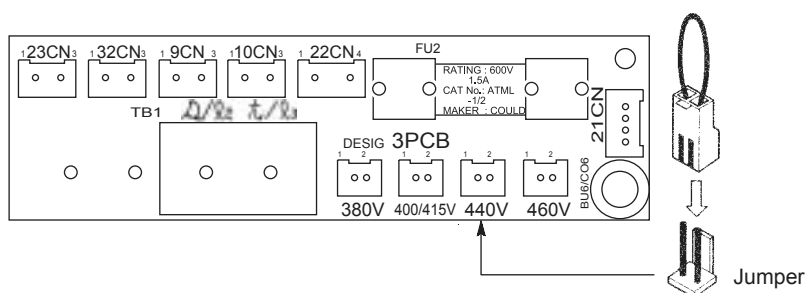

Fig. 13 Setting the Power Supply Voltage
3. Insert the jumper at the position for the voltage supplied to the VS-656DC5 (Refer to *Fig. 13*).